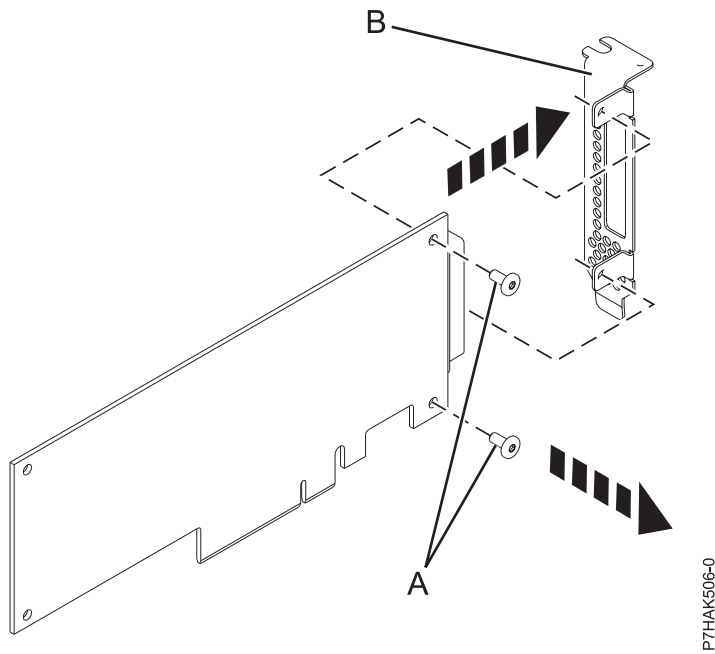

Figure 76. Removing the low-profile tailstock from a PCIe adapter
2. Using a Phillips screwdriver, unscrew the two screws (**A**) that attach the tailstock (**B**) to the PCIe adapter, as shown in Figure 76 on page 84.